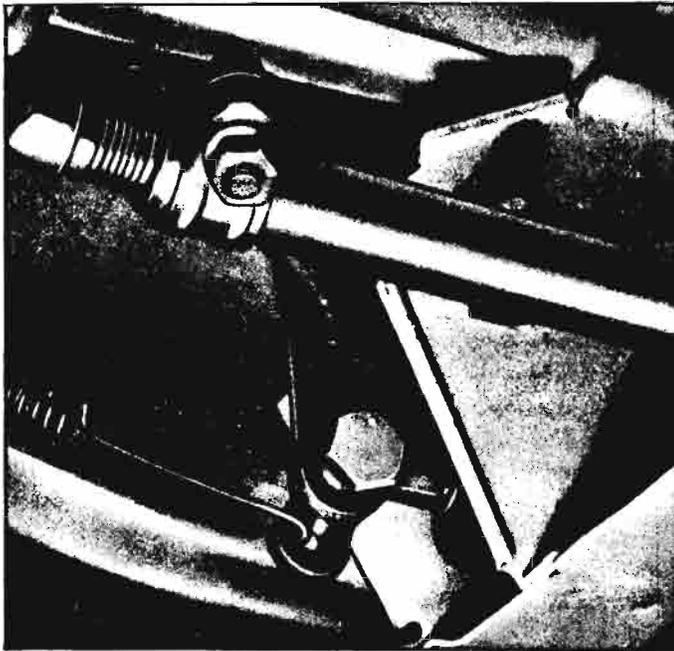

Fig. 5-27—Position of Bolt Head Projection
2. Turn pivot bolt until the projection on bolt head is at either top or bottom position (fig. 5-27).